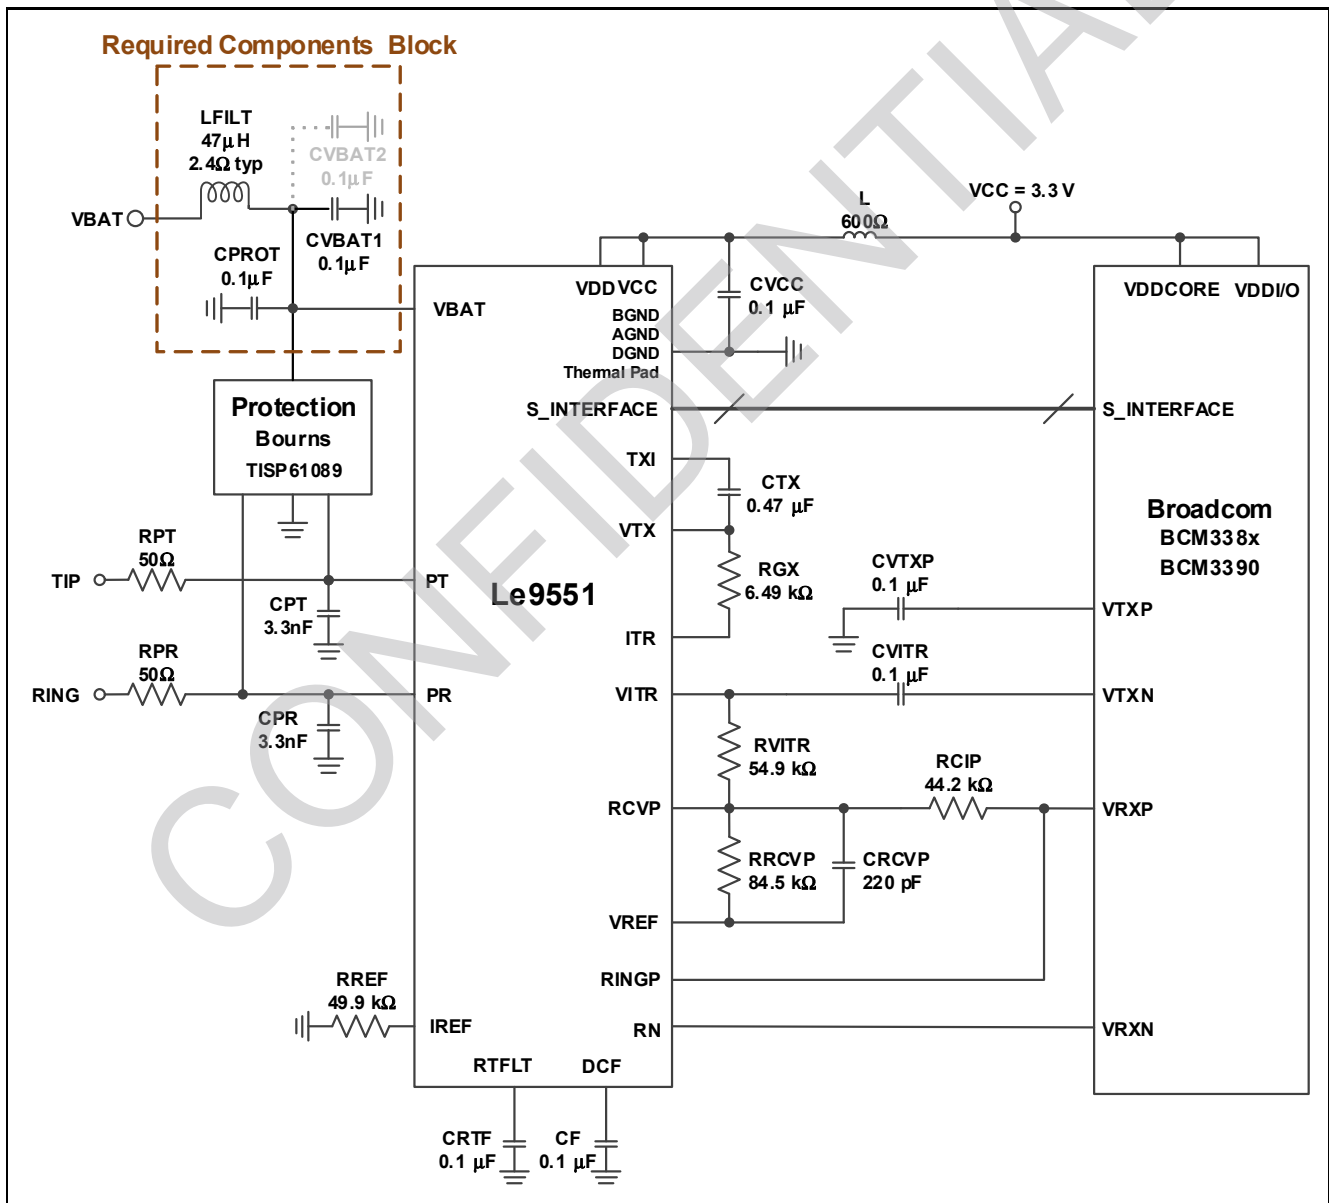

Figure 11 - Reference Schematic Interfacing Broadcom Codec
- Added device requirements in the Required Component Block in Figure 11 and “Application Circuit Parts List” on page 28